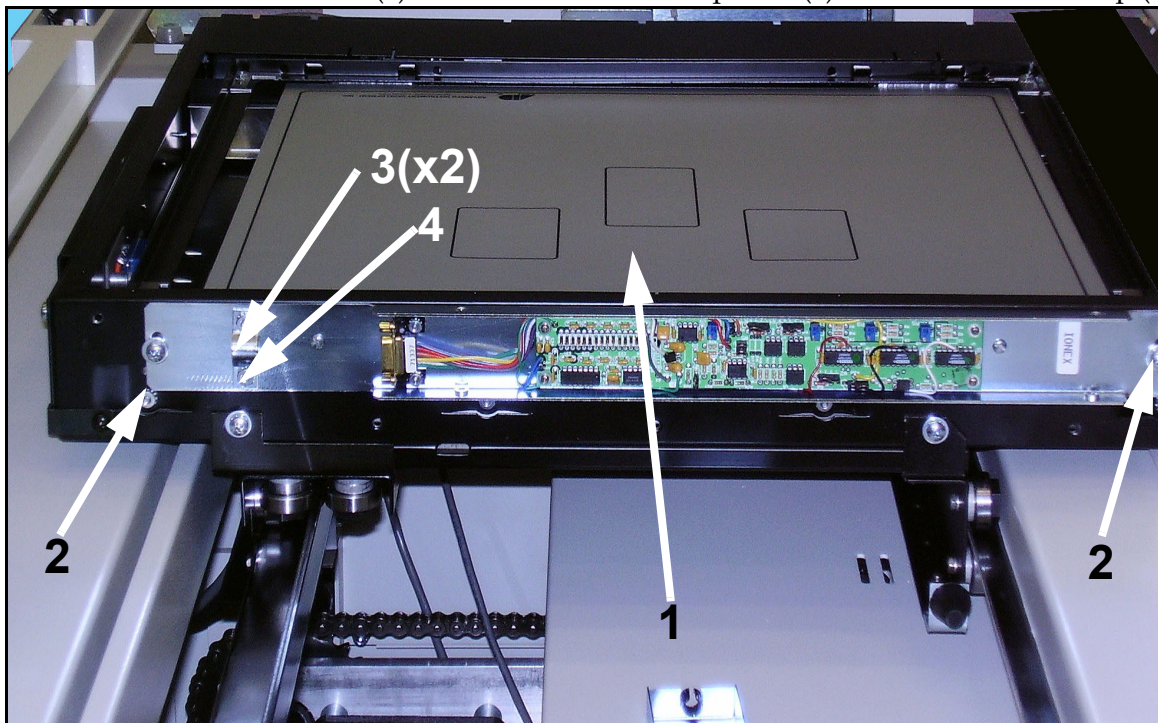

Figure 2-18. Installing Ion Chamber
- 34** Adjustments are needed to install the ion chamber assembly (1 in Figure 2-18). When mounting the ion chamber, the ion chamber needs to hit the slotting mounting holes. If the ion chamber is screwed down and hits the grid, then lower the ion chamber, but if it is too low then it will hit the cassette tray. Check before final tightening of mounting screws (2). Unscrew the two clamp nuts (3) and remove the clamp (4).